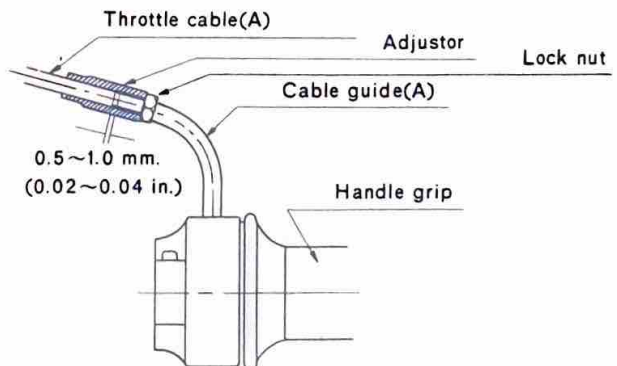

Fig 2-3-6
- b Next, adjust throttle cable(A) so that the gap as shown in Fig.2-3-6 below will be between 0.5 and 1.0 mm, (0.02~0.04 in.)
- Check the play of the throttle cable (A) by pulling on the outer part of the throttle cable. If the play is excessive or insufficient, adjust the play with the adjustment screw.